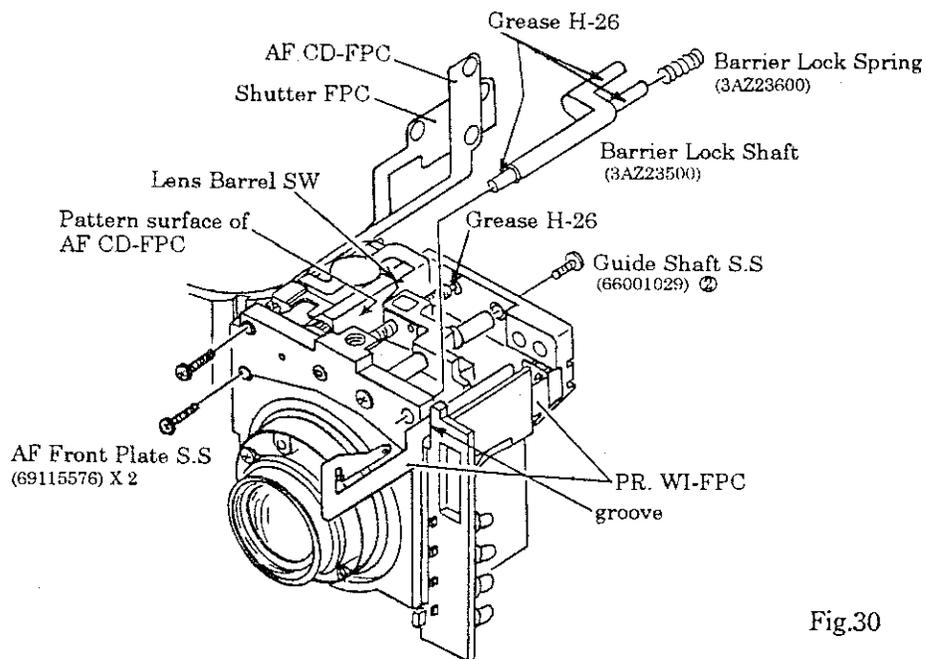

Fig.30
- 17) Apply grease H-26 to the three specified areas on the Barrier Lock Shaft (3AZ23500), and then install the Barrier Lock Spring (3AZ23600) in it. (See Fig.30)
- 21) Make sure that the AF Front Plate and the AF Motor Holder are in close contact with each other. (Temporary tighten the Guide Shaft Setscrews (66001029) ②. Tighten firmly the Guide Shaft Setscrew (66001029) ① described in the step 15) above. Tighten the Guide Shaft Setscrew (66601029) ② again firmly.